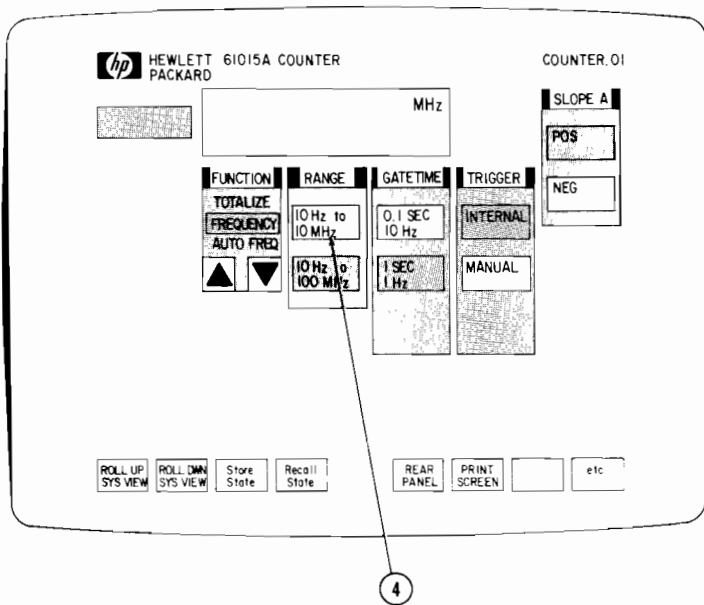

Figure 2-4. Change The Range
Step 4 - The Counter is now measuring the frequency of the signal on INPUT A. The default settings for range, gatetime, triggering, and slope are displayed in the light boxes. Input frequencies less than 10 MHz can be measured with greater resolution using a different range. Change the range by pointing to and selecting the 10 Hz to 10 MHz field below the RANGE switch. See Figure 2-4.